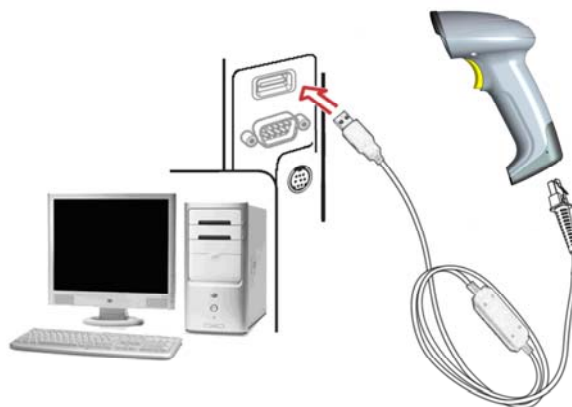

Figure 2-5 Installation - USB
1. Refer to Figure 2-5, connect the USB interface cable to the bottom of the scanner.